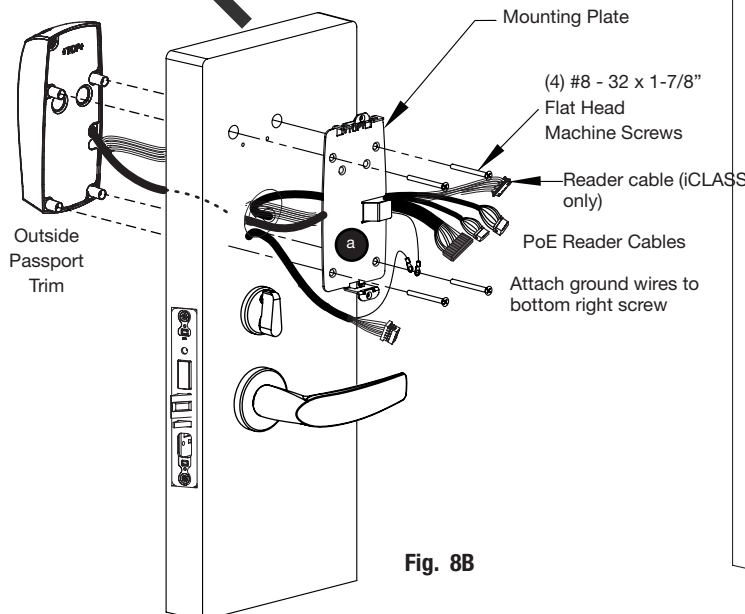

Fig. 8B
5. Insert other three #8-32 x 1-7/8" flat head machine screws and tighten, fastening the outside escutcheon to the door (Fig. 8B).